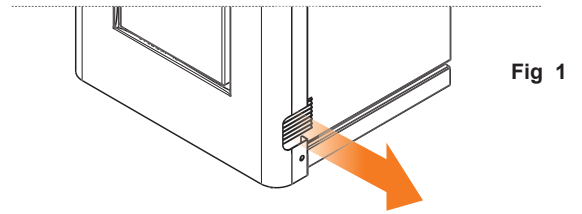

Fig 1
- Position the front panel (Fig. 1).
The stove, in the models configured for ducting, features 2 centrifugal fans suitable for channelling the air in the adjacent rooms. As standard, the air comes out of the grilles placed laterally with an air flow of 45° with respect to the front. (Fig. 1)